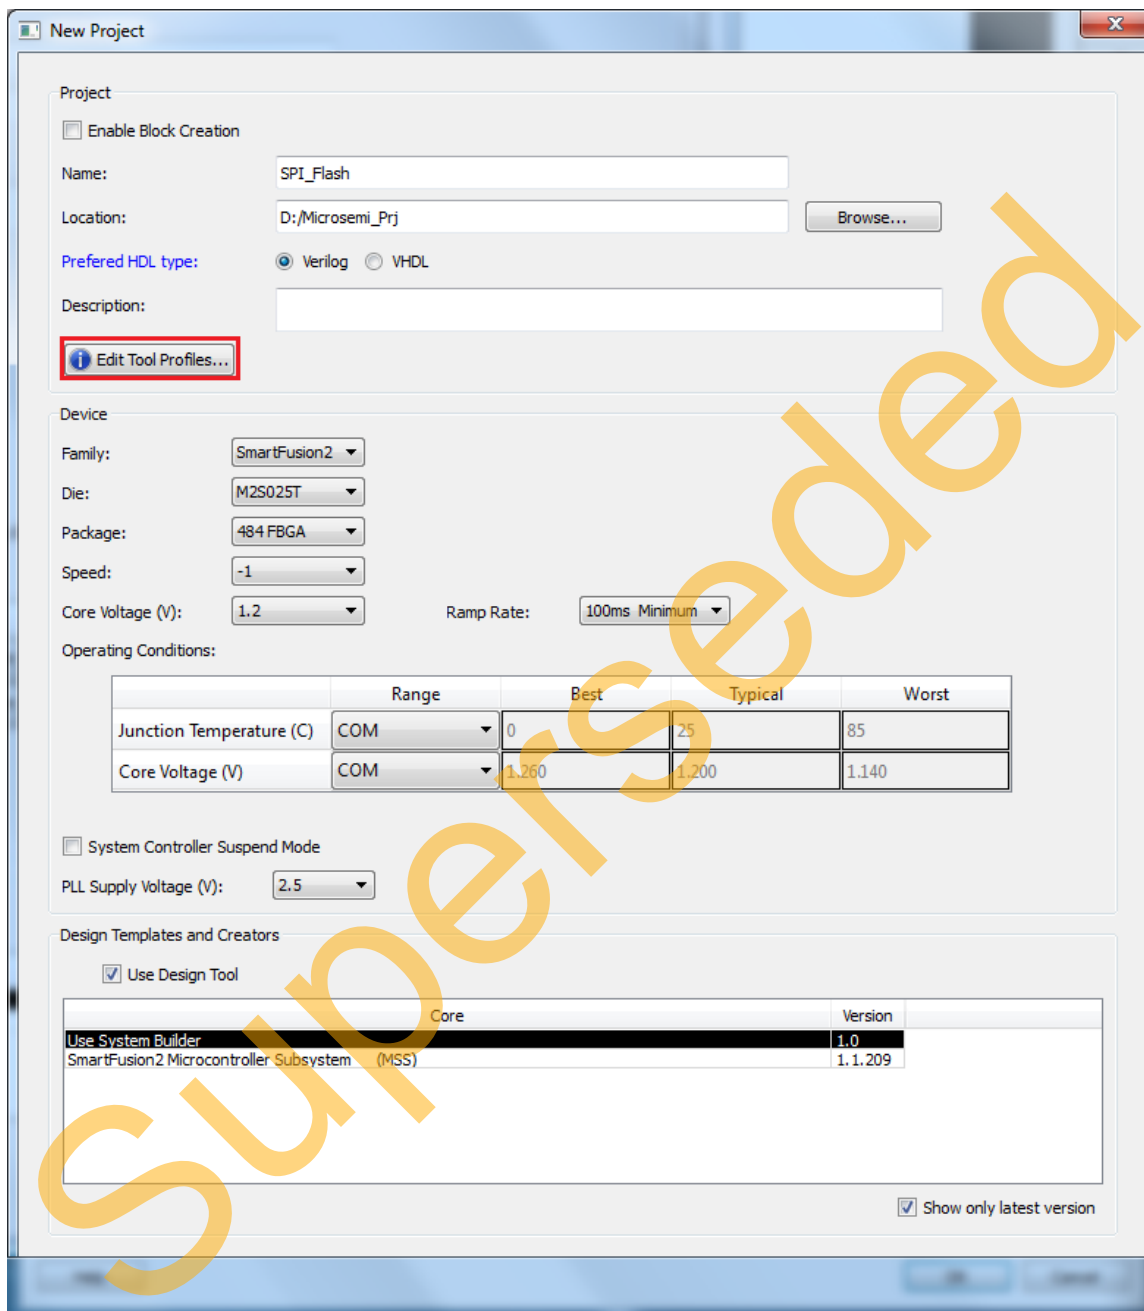
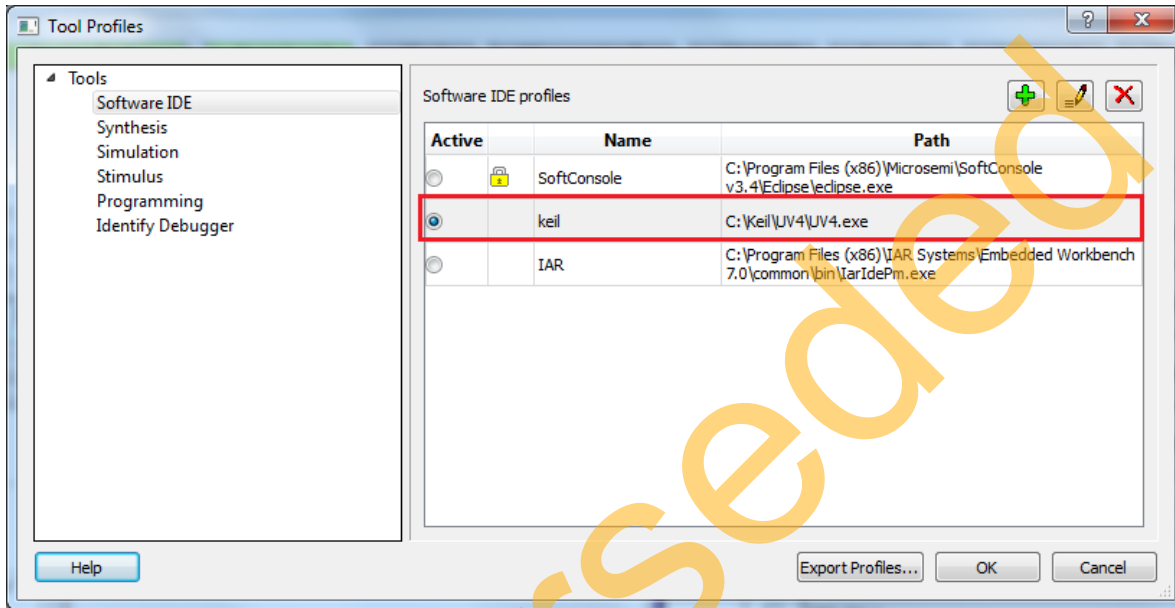

Figure 3 • New Project Dialog Box
Figure 4 • Tool Profiles
3. Enter the information as required for the new project and the device in the **New Project** dialog box as shown in Figure 3 on page 6.
4. Check the **Use Design Tool** check box and select **Use System Builder** in the **Design Templates and Creators** section of the **New Project** window as shown in Figure 3.
5. Clicking **Edit Tool Profiles** (highlighted in Figure 3 on page 6) displays the **Tool Profiles** window as shown in Figure 4. Check the following tool settings: